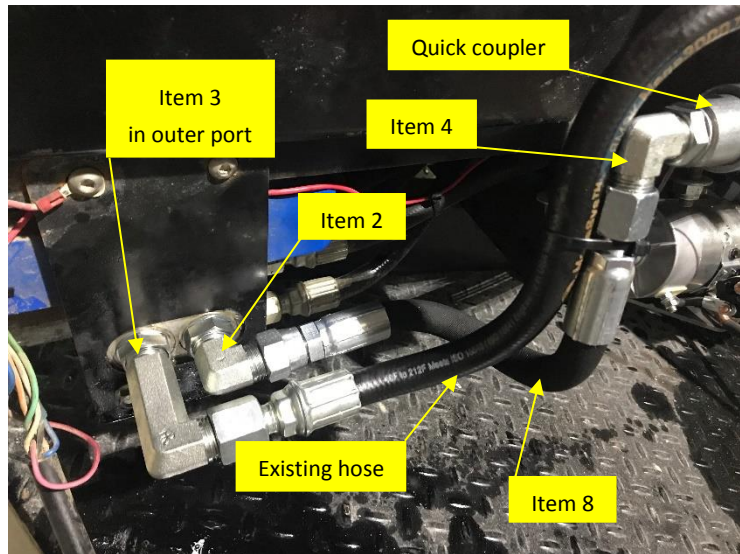

Figure 1
1. Disconnect the existing hydraulic hoses from the fittings in the **Hydra Flaker** valve. Remove the fittings from the valve block and replace them with the provided 10MJ X 10MB 90° (**ITEM 2**) and 10MJ x 10MB 90° Long (**ITEM 3**) fittings. Install the 90° long fitting in the outer port of the valve block. **The short hose and existing fittings will not be reused.** Reinstall the long existing hose onto the 90° long fitting and the provided 1/2" X 12" hose (**ITEM 8**) onto the other 90° fitting. Connect the 8MJ X 8MB 90° fitting (**ITEM 4**) onto the open end of the 1/2" X 12" hose and the existing quick coupler. **Figure 1**